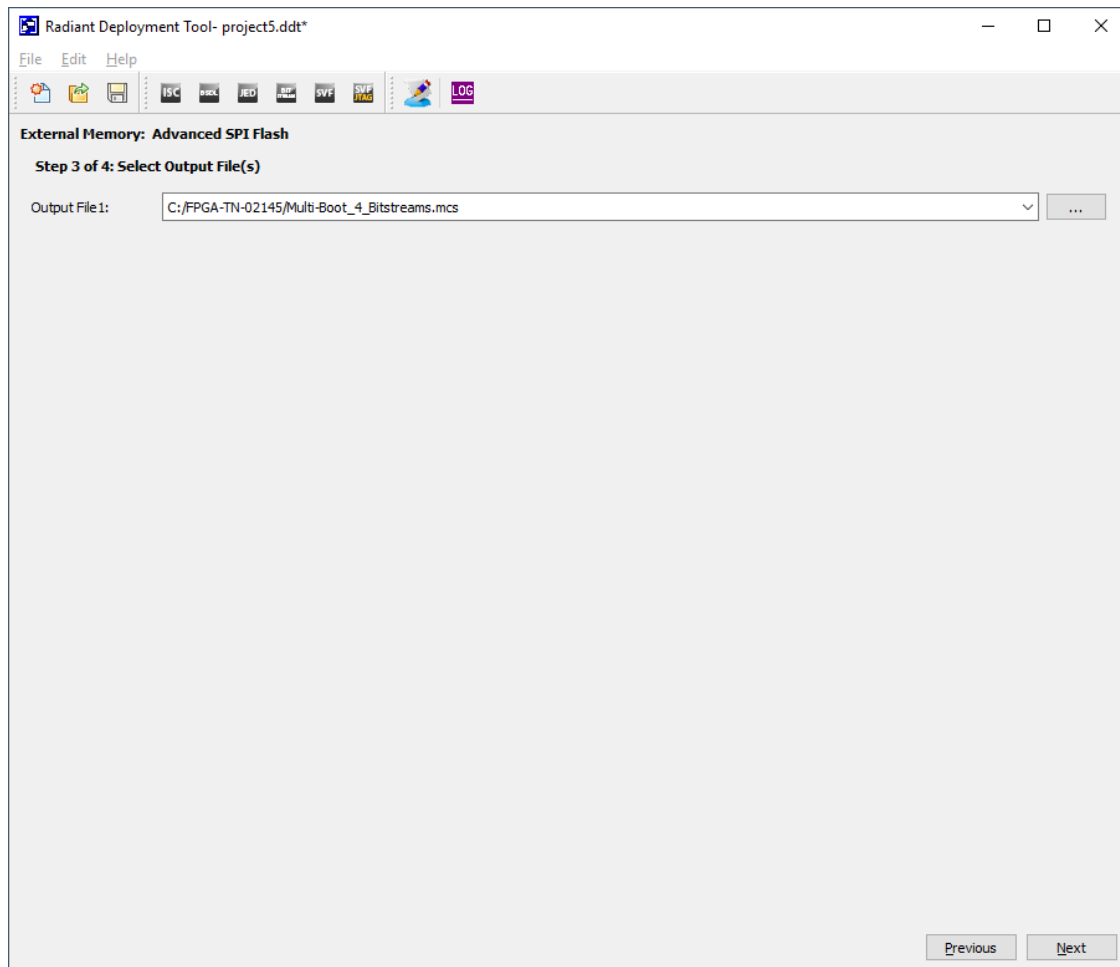

Figure 6.15. Select Output File Window
Step 3 of 4: Select Output File(s) window (Figure 6.15)